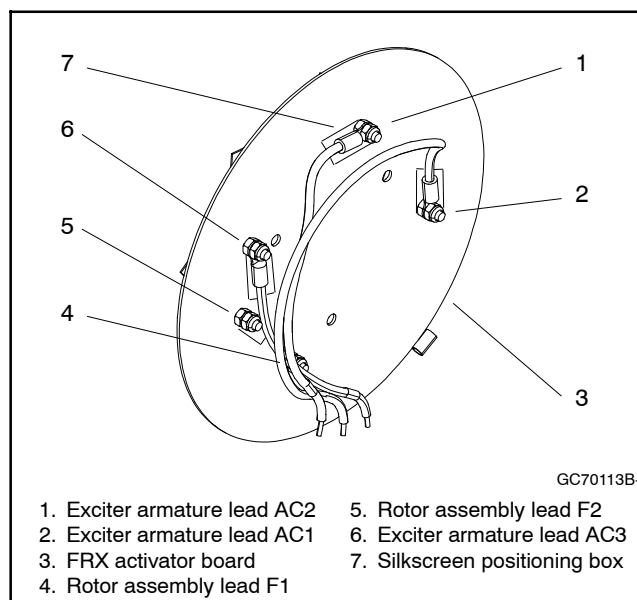
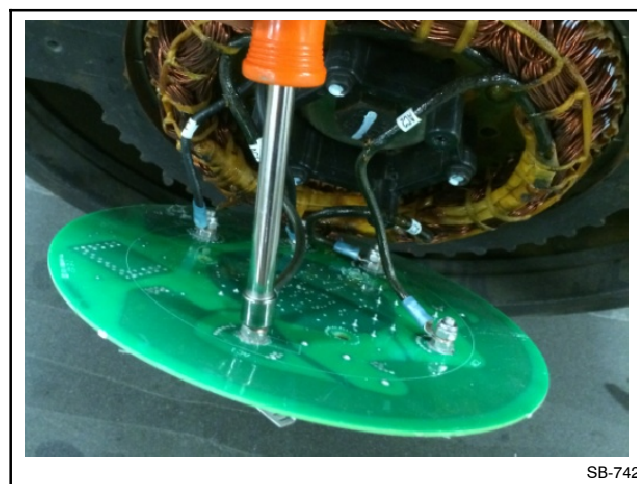

Figure 3 FRX Activator Board
Figure 4 Removing Leads from the FRX Activator Board
- 3.3 Access the back of the FRX activator board and disconnect the exciter armature leads (AC1, AC2, and AC3) and rotor assembly leads (F1 and F2) by removing the 5 elastic stop nuts. Note the lead terminals and their positioning on the FRX activator board silkscreen. See Figure 3 and Figure 4.